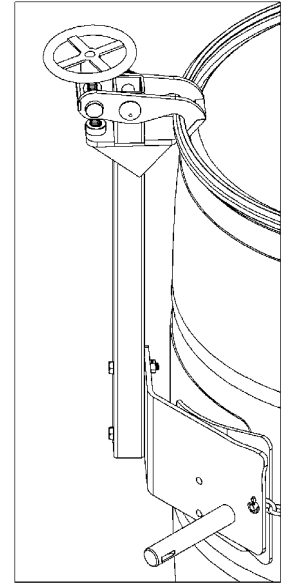

Figure 2.2
- To handle a 55-gallon (210 liter) plastic drum with suitable top rim, you **must** install either the Bracket Assembly or the Top Rim Clamp (Kit # 4560M-P) (see figure 2.2). You can use the Top Rim Clamp to handle a 55-gallon (210 liter) plastic, steel or fiber drum with suitable top rim.